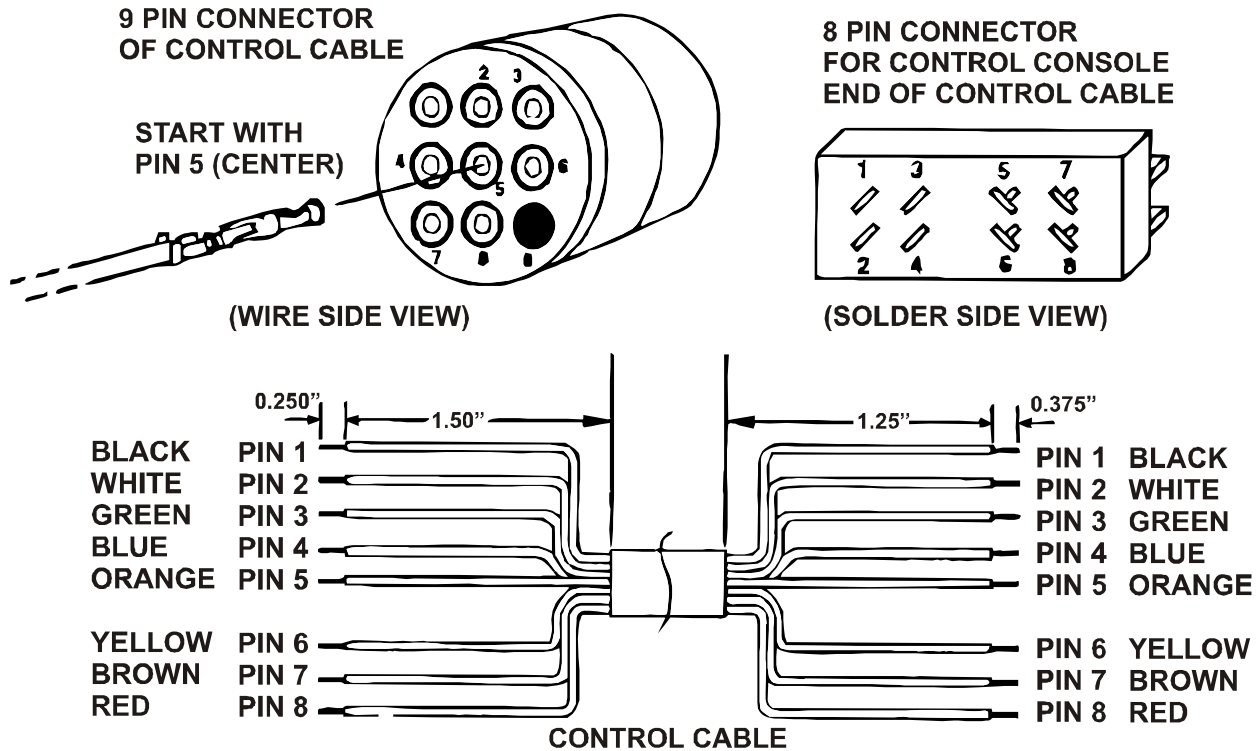

Figure 3 Control Cable Connector Attachments
Figure 3. Pay attention to the colors actually used. You may wish to check your wiring by measuring the rotator resistances as shown in Table 6 Rotator Resistance Chart.
3. Figure 3, or purchase a pre-assembled cable.